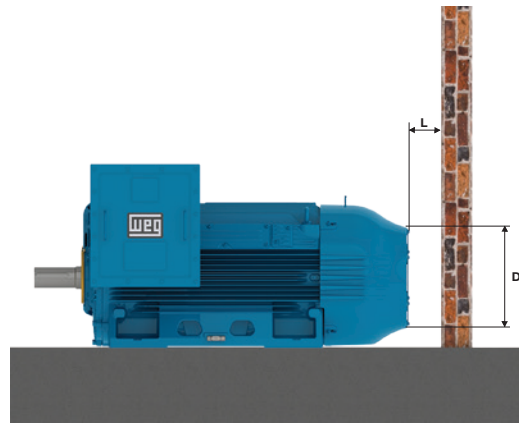

Figure 7.1- Minimum clearance to the wall
- Ensure that the air inlet and outlet opening are not blocked. The minimum clearance to the nearest wall (L) should be at least ¼ of the fan cover diameter (D), see Figure 7.1. The intake air temperature must be at ambient temperature.